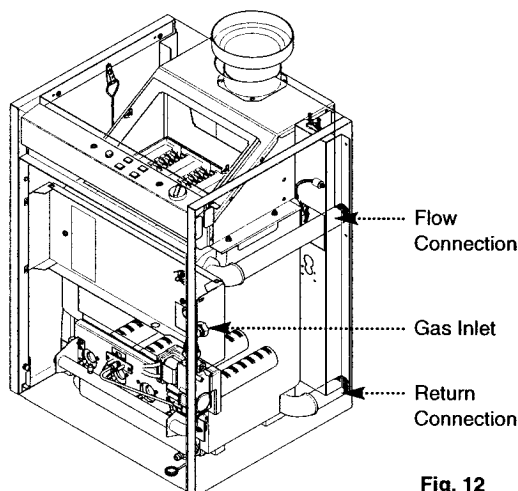

Fig. 12
7. Connect the gas supply pipe and the system flow and return connections to the boiler (Fig. 12).